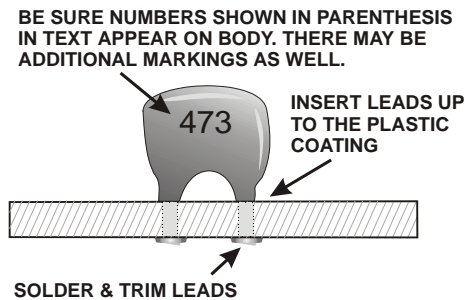

Figure 9. Installing Capacitors.
- Install capacitor C1, .047 μ F (473) on the *back* side of the PCB (the side that is *not* silk-screened). Position the capacitor as shown in Figure 9